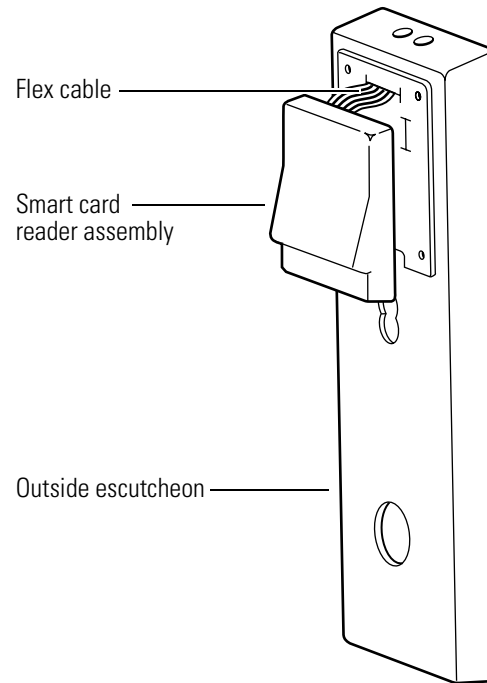

Figure 9.18 Removing the smart card reader assembly from the outside escutcheon
3. Remove the smart card reader assembly from the outside escutcheon, sliding the flex cable through the slot in the escutcheon. See Figure 9.18.